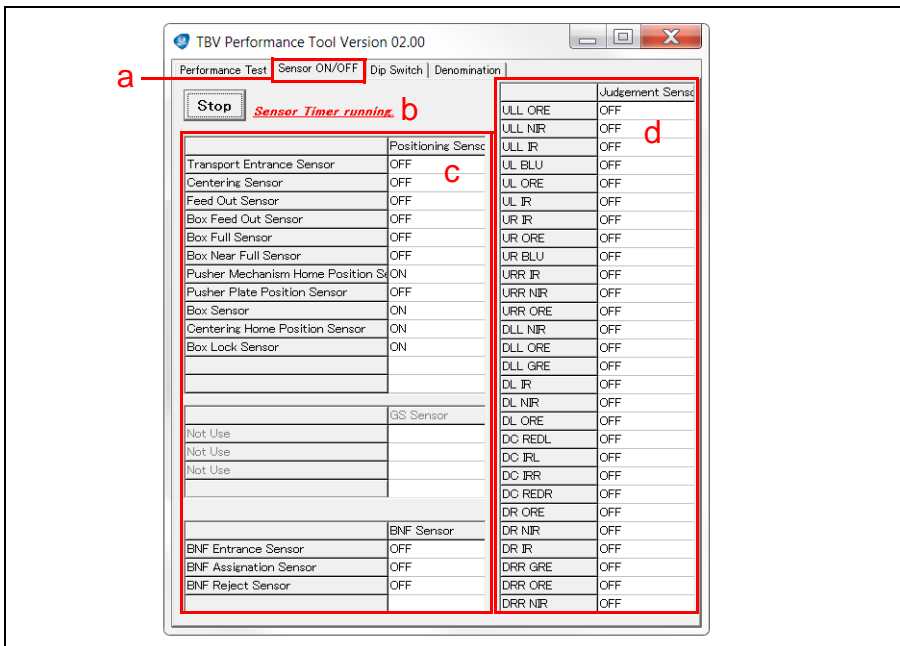

Figure 13 Sensor ON/OFF Test Screen, Positioning & Judgment Sensors
1. Click the Sensor ON/OFF tab (Figure 13 a).
3. Confirm that the **Sensor Timer running** text message appears (Figure 13 b).
4. Verify the status of 17 Positioning Sensors (Figure 13 c). If a Sensor is operating properly, its status indicator (Positioning Sensor column) will change from OFF to ON or ON to OFF as the Sensor is blocked or unblocked.
5. Verify that the status of 28 Judgment Sensors (Figure 13 d) appears as OFF. If a Sensor is operating properly, its status indicator (Judgment Sensor column) should appear OFF.